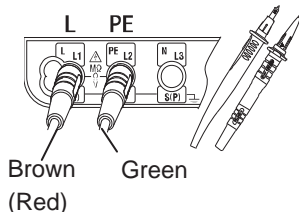

Fig. 12
- 3 Insert the Test Leads to the L and PE terminal on KT65DL respectively as shown in Fig.12.